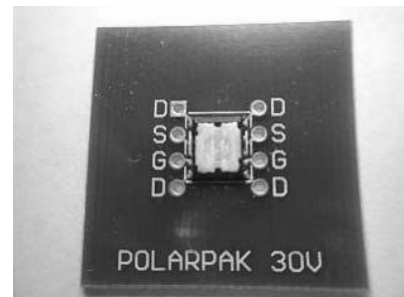

Fig. 1 - PC Board assembly with Soldered Part
1. Test PCB used for this experiment (figure 1). See Appendix A for details.
1. The test sample is shown in figure 1 the PCB assembly